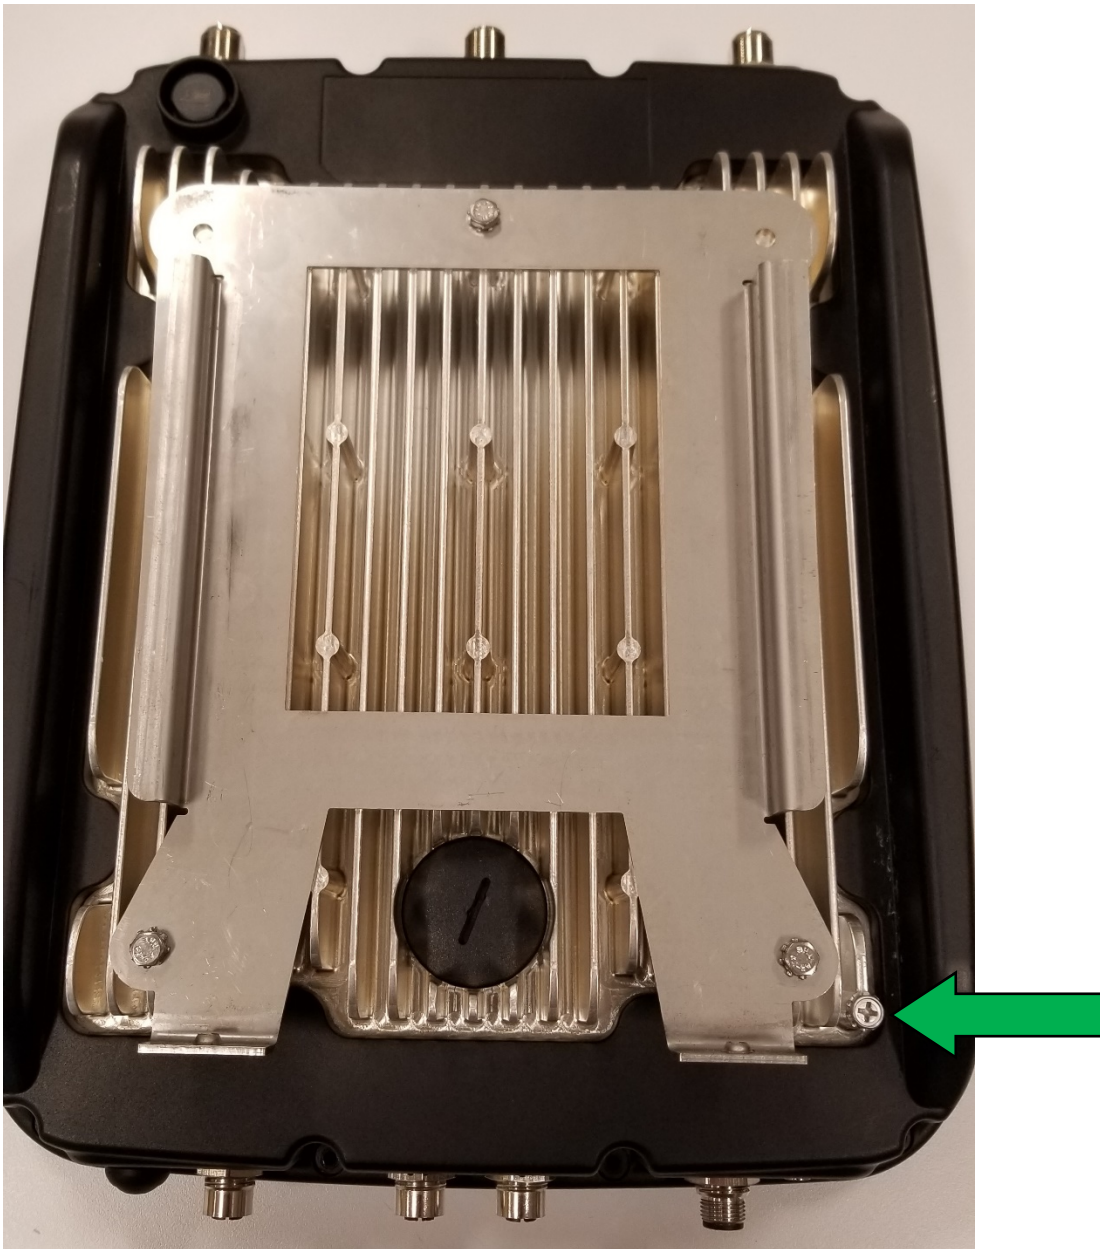

Figure 4
The VHH10 unit must be properly grounded to ensure reliable operation. The grounding connection (see Fig 4) must be securely and effectively connected to an actual earth ground. A grounding stake, grounded pole or similar grounded metal structure may be used. Figure 4, shows the back of the VHH10 unit with the unit piece of the wall mounting bracket attached. The location of the grounding connection is shown in that Figure by the large green arrow. Because it may be difficult to reach this connection after the unit is hung on the wall, it is advisable to connect the grounding lug to the VHH10 unit before hanging the unit on the wall mount.
1. Attach the unit piece of the wall mounting bracket to the back of the VHH10 unit with three M8 bolts, as shown in Figure 4. Please notice that a single bolt attaches in the middle at the top of the bracket and two bolts attach the bottom of the bracket. The holes in the top corner of the bracket are unused.